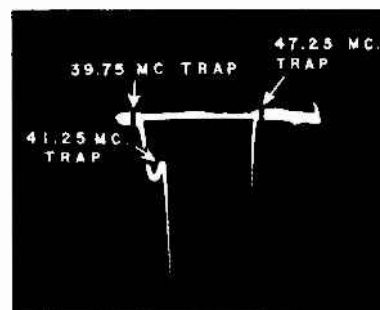

Fig. 16 Exploded View of Traps
8. Adjust the 47.25 Mc, 41.25 Mc and 39.75 Mc traps for minimum marker amplitude (See Fig. 16). It can be seen that maximum oscilloscope gain has been used and as a result the top of the response curve has been "run off" the oscilloscope screen in order to see a "blow-up" of the trap slots.